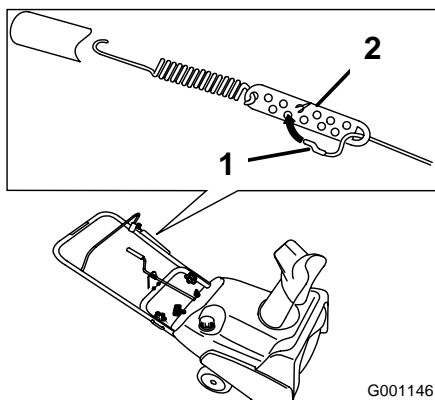

Figure 23
2. Move the Z-fitting to a higher or lower hole in the adjuster link as needed to obtain the 1/16 to 1/8 inch (2 to 3 mm) gap between the control bar and the handle (Figure 23).